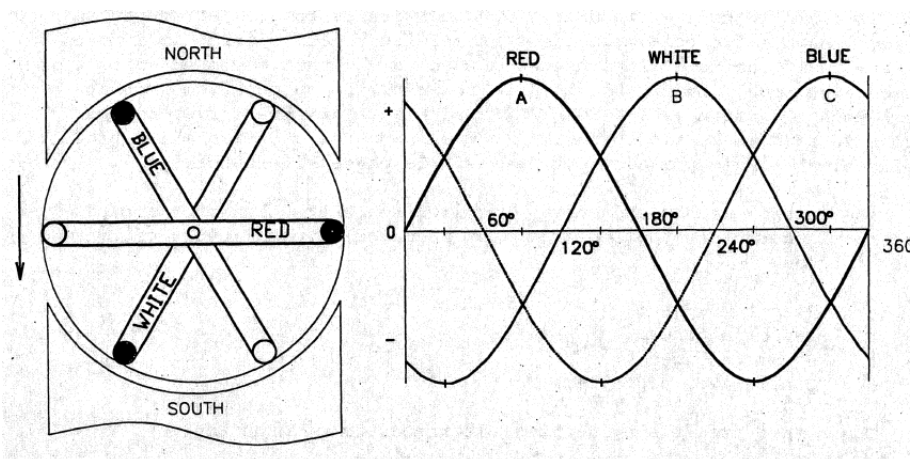

Figure 1 - Three phase sine wave
7. The peak output voltage from one revolution of a three phase alternator which has three coils rotating in a two pole magnetic field is shown in Figure 1. The rms value for each phase is 0.707 of the peak value.
8. You can see from Figure 1 that one revolution of the two pole alternator produces three sinusoidal voltages – each separated by a phase angle of 120 electrical degrees. Each sine curve reaches a maximum value twice in each cycle (one positive and one negative), and for any given point in time, there is always current flowing in at least two of the three phases. Also, for any given point in time, the instantaneous sum of all three values is zero. For every point in time on a three phase sine curve the current is in one direction in two of the phases and in the opposite direction in the other phase (except when the current in one phase is zero).
9. You can also see from Figure 1 that the phases reach their maximum value in a particular sequence (separated by 120 degrees) – in this case Red, White and then Blue (or ABC). This is known as the phase sequence, or phase rotation, and this governs the direction of rotation of three phase motors; if the current in any two phases is reversed the phase sequence is reversed – it becomes ACB.